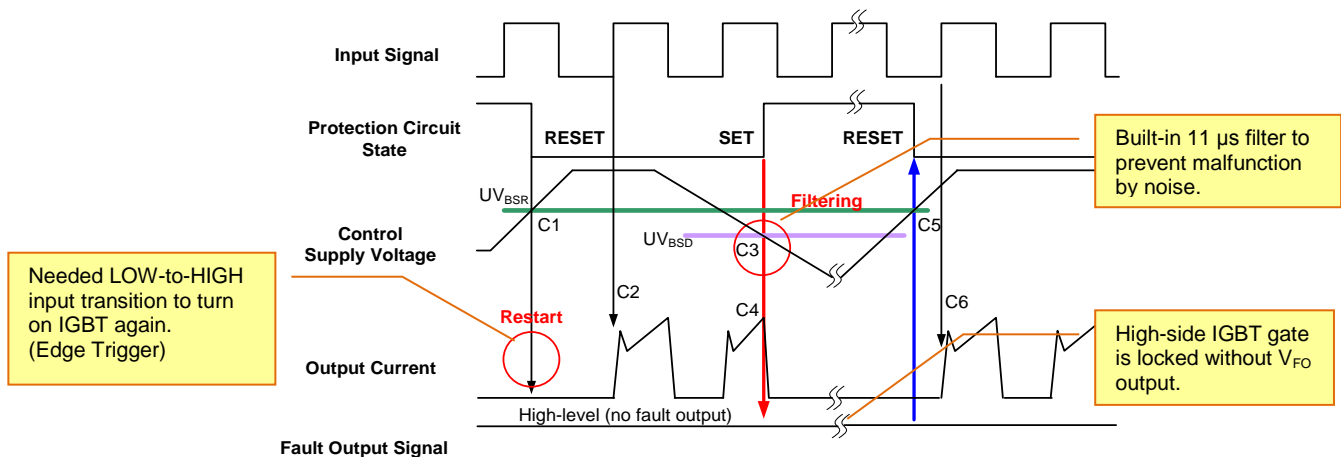

Figure 20. Timing Chart of High-Side Under-Voltage Protection Function
The HVIC has an under-voltage lockout function to protect the high-side IGBT from insufficient gate driving voltage. A timing chart for this protection is shown in *Figure 20*. A fault-out (FO) alarm is not given for low HVIC bias conditions.